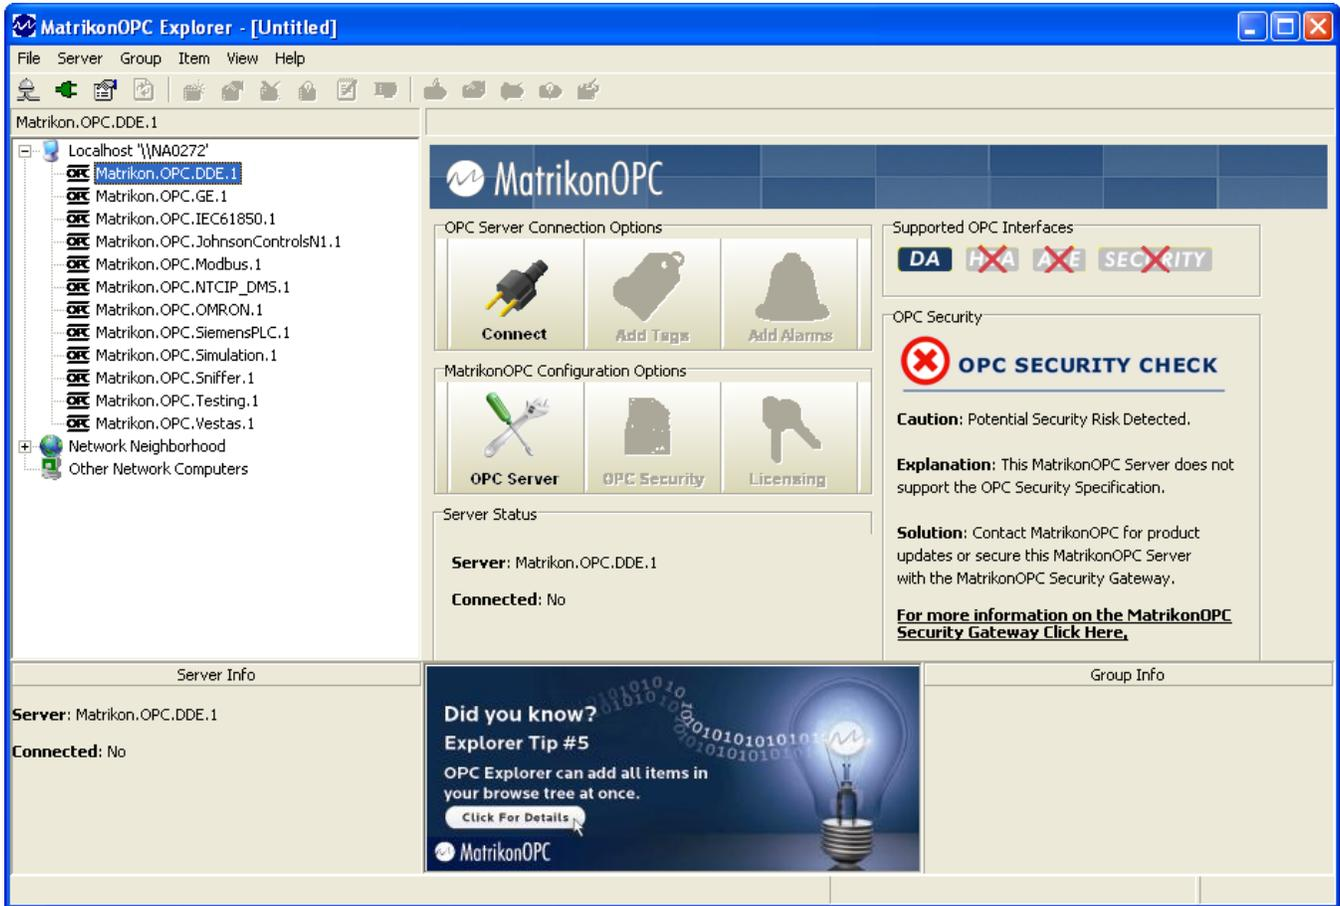

Figure 8 - MatrikonOPC Explorer
2. The **MatrikonOPC Explorer** configuration screen appears (Figure 8). Listed in the navigation pane on the left side of the screen, are the names of the OPC servers installed on the local computer.